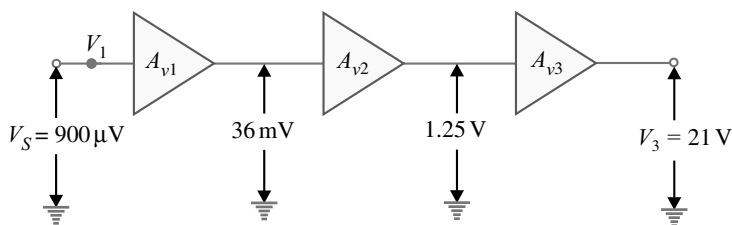

Fig. 9.5
**Example 9.4.** Fig. 9.5 shows a 3-stage amplifier where source resistance  $R_S = 0$  and load  $R_L$  is not connected to the last stage. Now, suppose that source resistance  $R_S = 2000 \Omega$  and the load  $R_L = 25 \Omega$ . Further, stage 1 has input resistance of  $1 \text{ k}\Omega$  and stage 3 has output resistance of  $50 \Omega$ . Find :